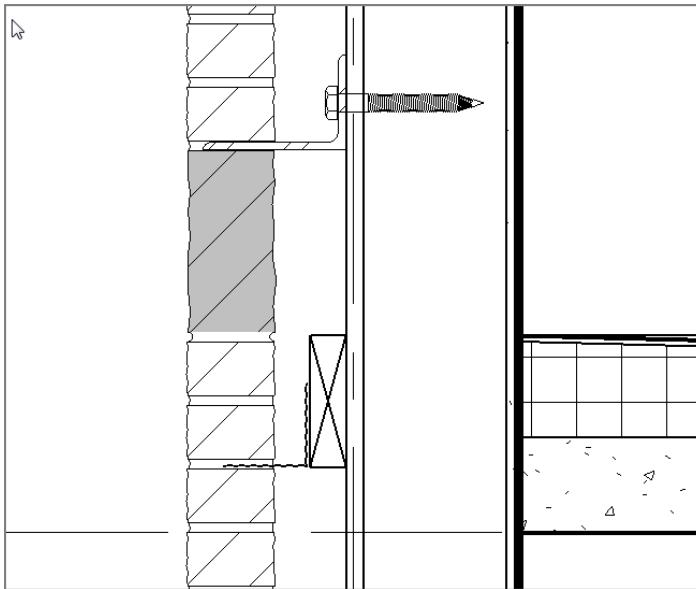

FIGURE 12.38: Placing the corrugated wall tie
7. Use the **Detail Component** button to place the wall tie into your model, as shown in Figure 12.38.